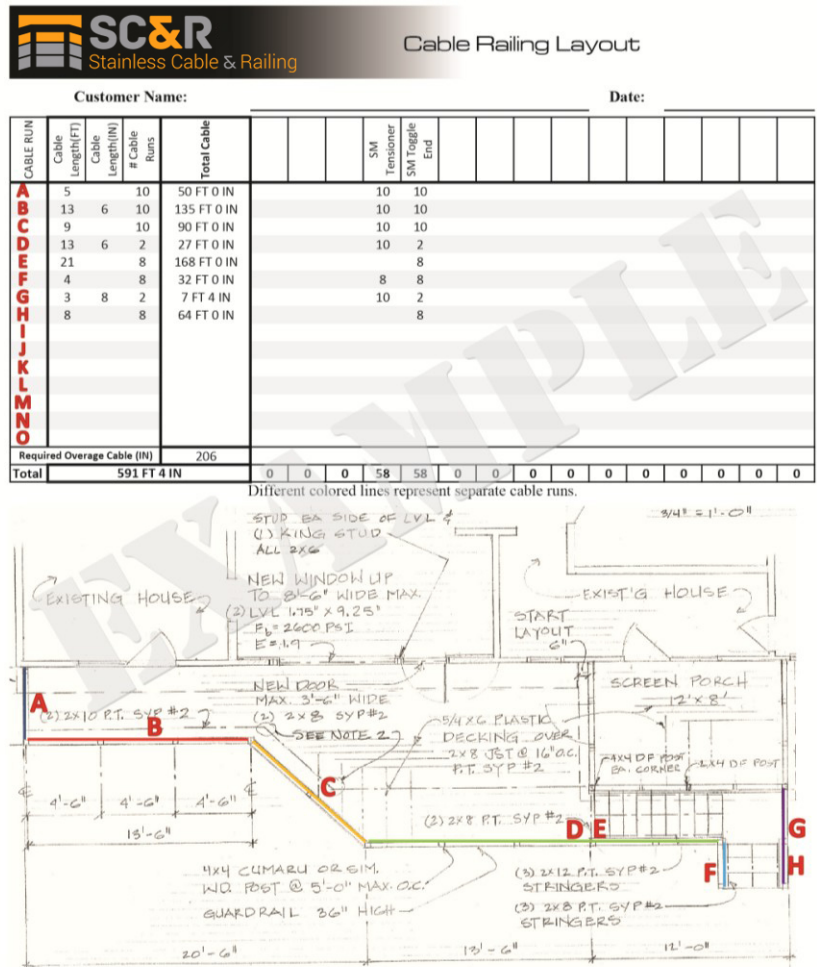

Fig 1
- Determine where the cable will start and stop (ie; Sections). Reference the color-coded layout sheet (Fig 1) if it was included with these instructions.